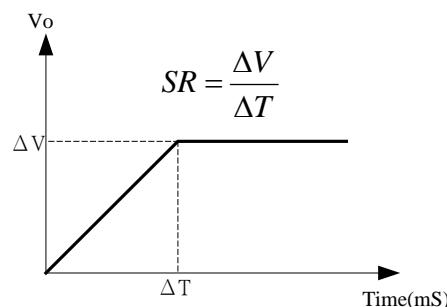

Figure 3-21
2. Use the numeric keys (**0** - **9**) or the “Rotary” () knob to set the value. The output voltage slew rate of the DC Power Supply is set as shown in Figure 3-21. The maximum input Slew Rate is 20V/mS and the minimum is 0.001V/mS. The output of the DC Power Supply will follow the rising slew rate to the set output voltage while the falling slew rate is limited by the load.